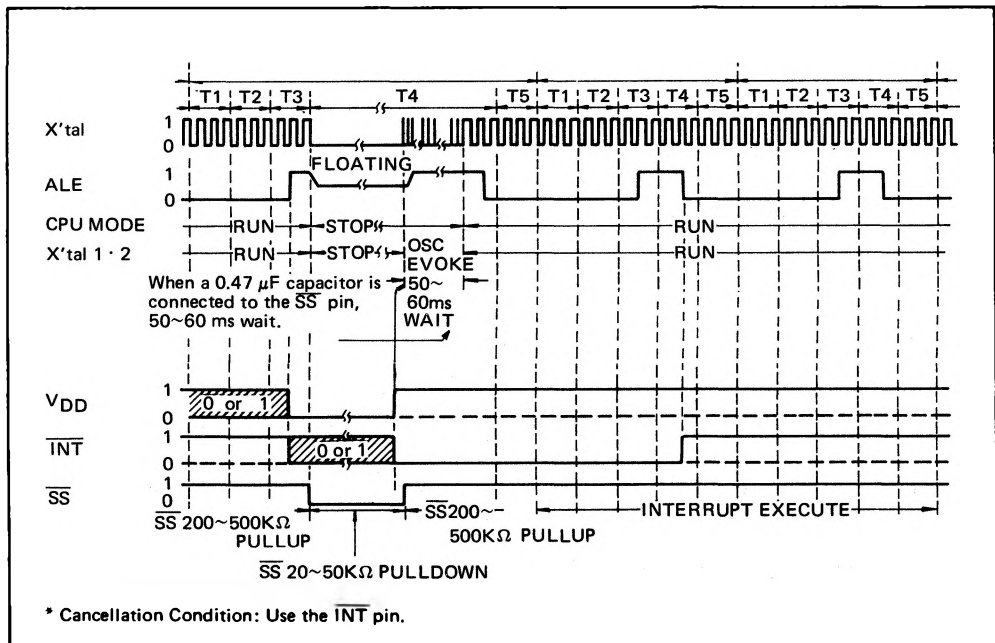

Fig. 4-6 Hardware Power-Down Mode Timing Chart
However, if the power-down mode is started during an interrupt processing routine, execution will be continued on the next instruction after the present instruction. The timing chart is outlined in Fig. 4-6.
- The clock generator is activated and the CPU started up when a "1" level is applied to the  $V_{DD}$  pin while a "0" level is applied to the  $\overline{\text{INT}}$  pin. If this "0" level is maintained until at least 2 ALE output signals occur, execution is continued on the next instruction after the present instruction. The timing chart is outlined in Fig. 4-6.